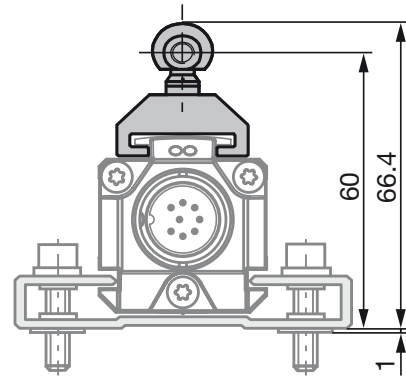
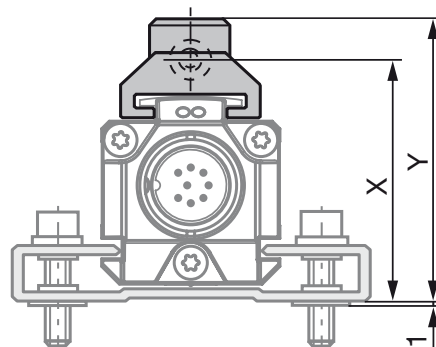
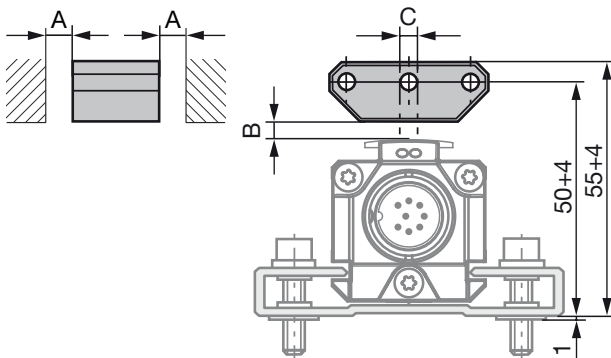
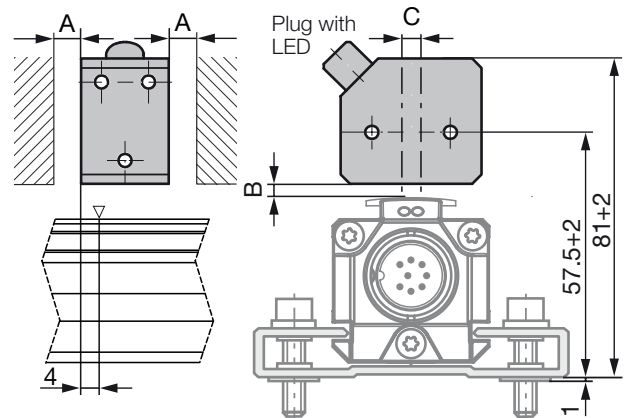

Fig. 4-1: Dimensions and distances with BTL5-F-2814-1S magnet
Fig. 4-3: Dimensions and distances with BTL5-M/N-2814-1S magnet
Fig. 4-4: Dimensions and distances with BTL5-P-3800-2 magnet
Fig. 4-8: Dimensions and distances with BTL5-P-4500-1 electromagnet (24 V/100 mA)
i The micropulse transducer in profile housing is suitable both for floating, i.e. non-contacting magnets (see Fig. 4-4 to Fig. 4-8) and for captive magnets (see Fig. 4-1 to Fig. 4-3).
- Ensure that the distance A between parts made of magnetizable material and the magnet is at least 10 mm (see Fig. 4-4 to Fig. 4-8).
- Maintain the following values for distance B between the magnet and transducer and for center offset C (see Fig. 4-4 to Fig. 4-8):
The measuring range is offset by 4 mm towards the transducer plug (see Fig. 4-8).